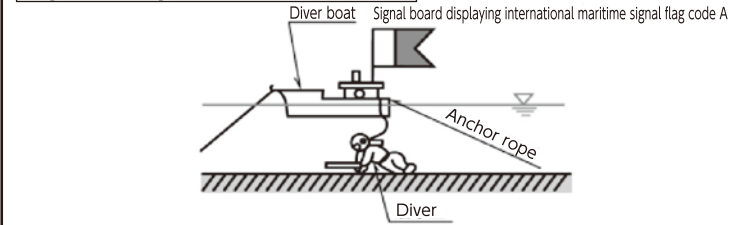

Figure 6: Signals on the guard boats
- 3) While work is taking place, two guard boats flying warning signals (green, yellow, and green streamers) will be placed near the work vessels, one of which will be equipped with international marine VHF radio. (Refer to Fig. 6)